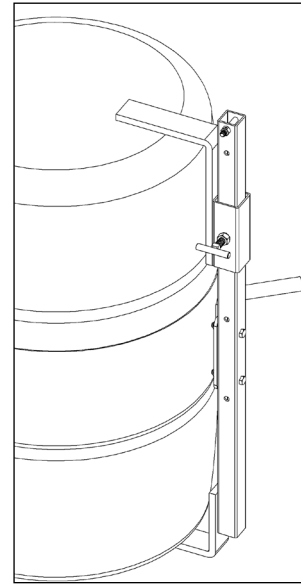

Figure 2.1
- The adjustable Bracket Assembly (Kit # 4556M-P) is **required** to handle a plastic drum without a top rim (see figure 2.1). The Bracket Assembly is also recommended when handling a fiber drum. You can also use the Bracket Assembly when handling a rimmed drum. It adjusts for a drum 31" to 39" (79 to 99 cm) tall.